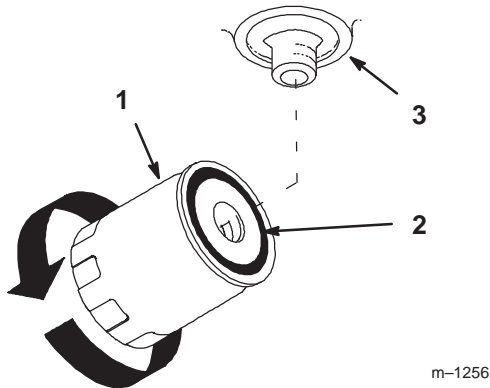

Figure 51
4. Apply a thin coat hydro fluid to the rubber gasket on the replacement filter (Fig. 51).
7. When fluid overflows filter turn the oil filter clockwise until the rubber gasket contacts the filter adapter, then tighten the filter an additional 1/2 turn (Fig. 51).